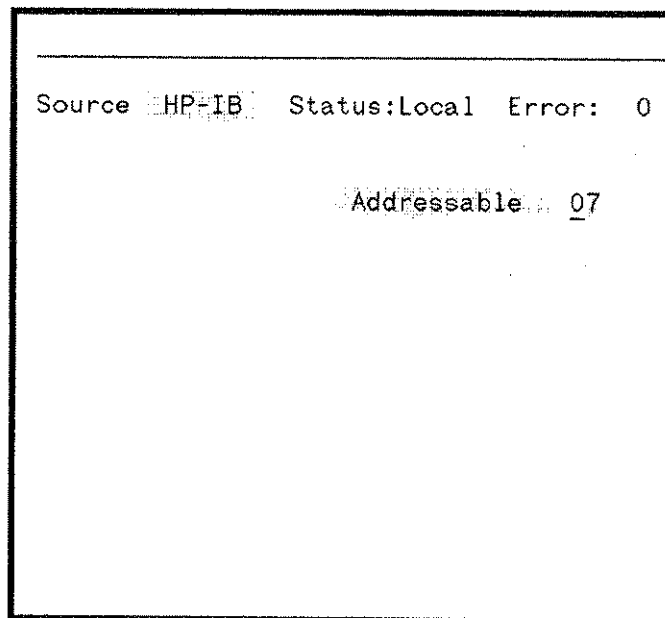

Figure 6-1 Remote Configuration Page (HP-IB)
2. Using the Cursor and Next/Prev Keys set the Page 5 display as shown in Figure 6-1 below.
Figure 6-1 shows address 07 selected. Any Address in the range 0 to 30 can be selected.